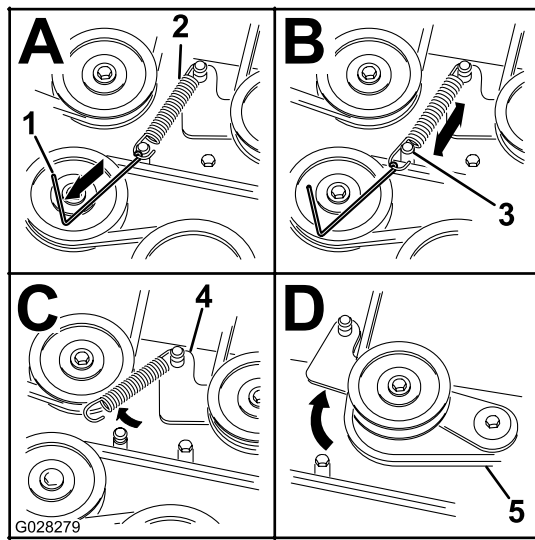

Figure 66
- Using a spring removal tool (Toro part no. 92-5771), remove the idler spring from the deck post to remove tension on the idler pulley (Figure 66).
1. Install the new belt around the mower pulleys and the clutch pulley under the engine (Figure 66).
2. Using a spring removal tool (Toro part no. 92-5771), install the idler spring over the deck post and place tension on the idler pulley and mower belt (Figure 66).